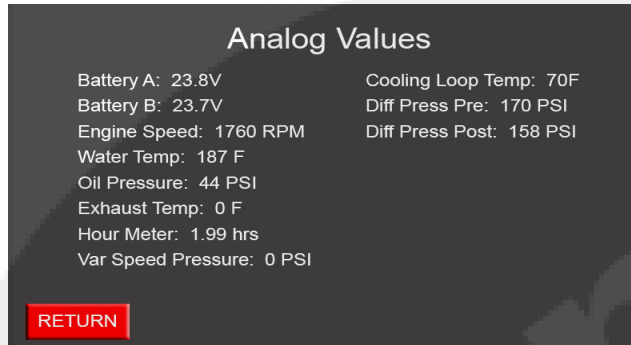

Figure 4-15 Analog Values Screen (Sample)
3. To exit the Analog Values screen (shown in Figure 4-15), press the RETURN soft key.